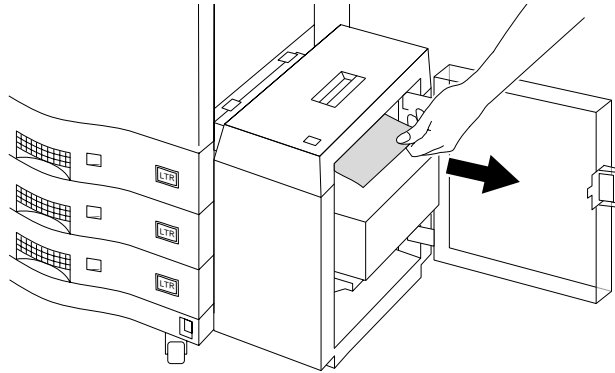

Figure 3-45 Removing paper from HCI
2. Inspect the top of the HCI paper stack for jammed paper and remove any sheets that are stuck in the paper ejection area or which look crumpled or otherwise defective, as shown in Figure 3-45.